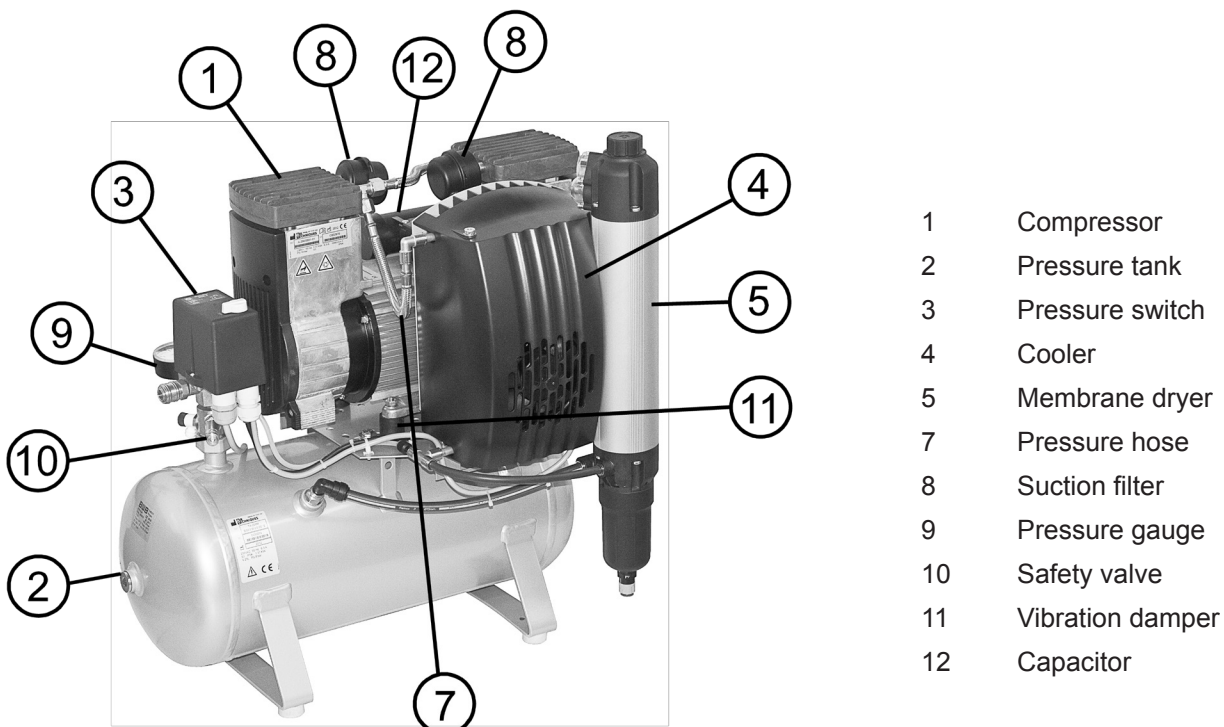

Figure 1b. AERO200M Key Components
Atmospheric air will be sucked in by the suction filter Figure 1b. This air will be compressed by the piston in the cylinder. The inlet and outlet respectively close a flow direction, which leads the compressed air to the cooler (4) and then the membrane dryer (5).